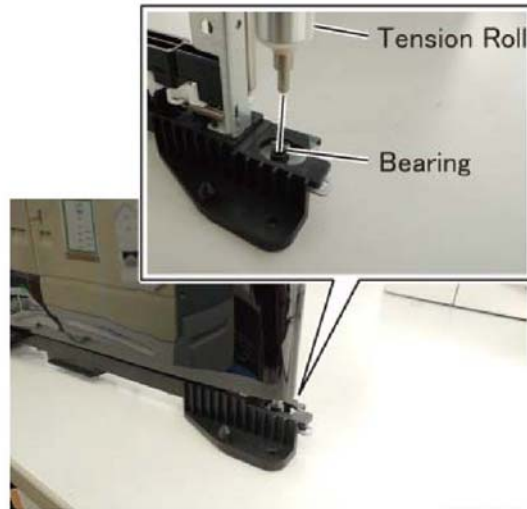

Figure 14 Tension roll shaft
- When installing the rear holder and the tension roll, insert the shaft of the tension roll to the bearing on the IBT belt unit side, Figure 14.